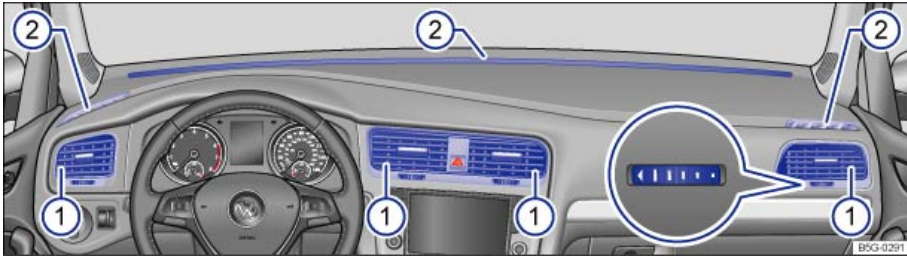

Fig. 151 In the instrument panel: Air vents.
To help ensure sufficient heating, cooling, and ventilation in the passenger compartment, never close the air vents completely ⇒ fig. 151 (1).